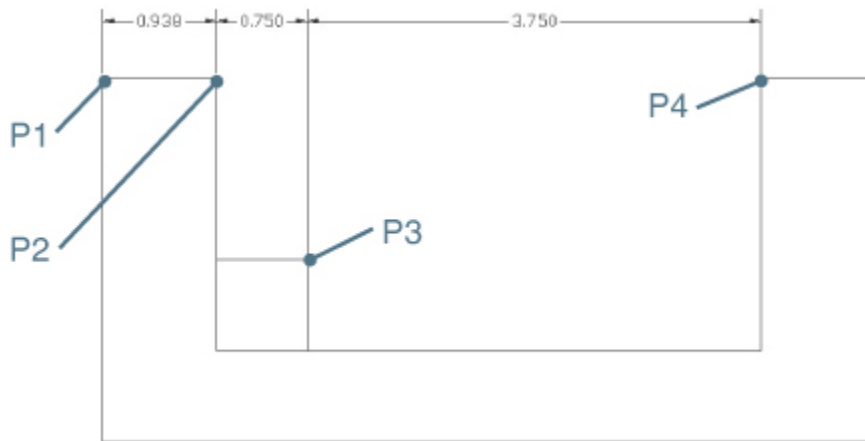

Figure 13-31
- 2 Start the **DIMLINEAR** command and place the horizontal dimension between P1 and P2 as shown in Figure 13-31.
- 4 Place the dimensions P3 and P4 as shown in Figure 13-31. Press **<Esc>** to exit the **DIMCONTINUE** command.